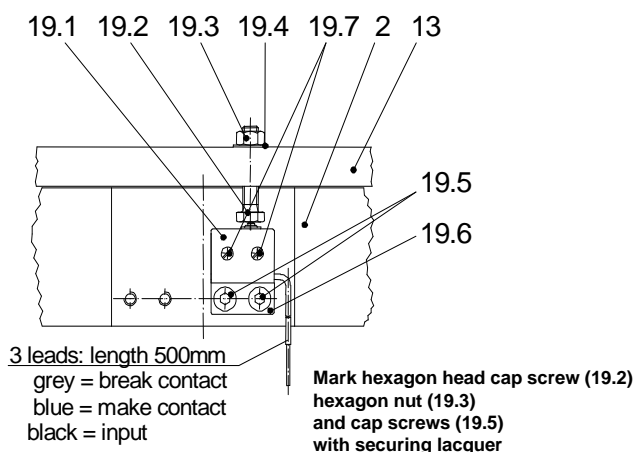

Fig. 7 (Size 60 – 125)
### Figs. 7 and 8
### Assembly (at the factory Figs. 7 and 8)
4. Screw adapter plate (19.6) with two cap screws (19.5) (M4x8 – DIN912) to the brake body (2) on the side of the release monitoring (Fig. 7) (lock it with LOCTITE 243).
5. Screw brake to the machine wall (12) or assembly device with nominal tightening torque, **put measuring strip "Z" between all distance sleeves (7) and machine wall (12) or assembly device according to Table 8.**
((pos. 19.1) Figs. 7 and 8 at the factory):
1. Connect signal lamp or inspection unit (adjustment diode inspection at the micro switch (pos. 19.1).
**with feeler gauge (Figs. 7 and 8) at the factory:**